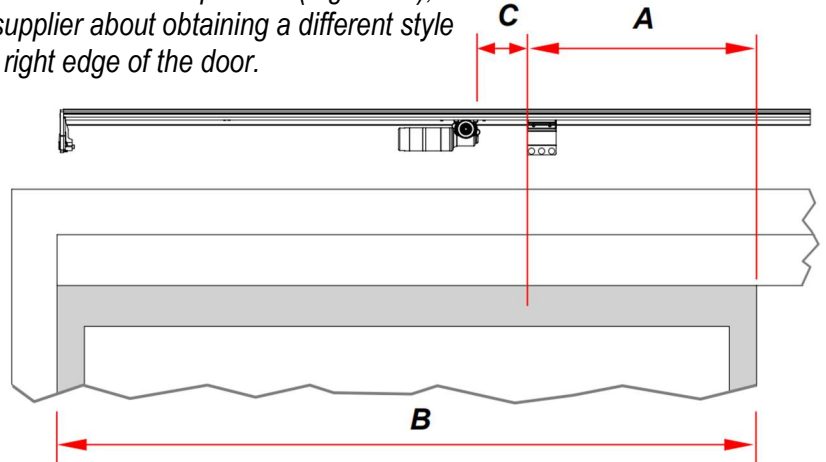

Figure 21: Bi-parting doors: motor and top bracket. The left side is shown with left door open.
2. Slide the motor along the base until it is in front of left-hand sliding door as shown in Figure 21, where:
4. Mark the position of the top bracket on both the base and the left-hand sliding door as in Figure 21.